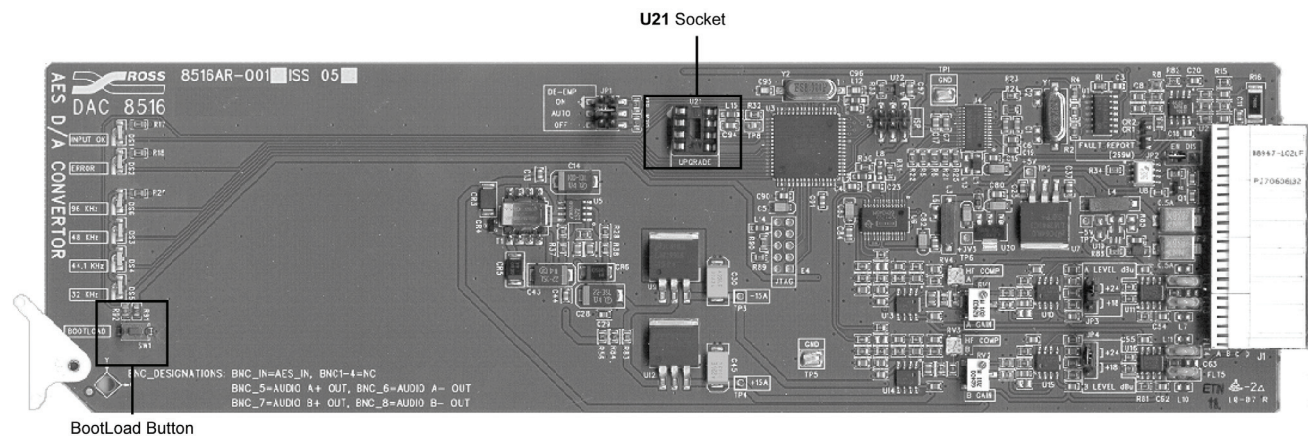

Figure 8 – DAC-8516 Upgrade Socket and Label Locations
1. With the card removed from the frame, refer to Figure 8 and the card labeling to locate chip socket **U21**.
1. After removing the card from the frame, refer to Figure 8 and the card labeling to locate the **U21** socket.